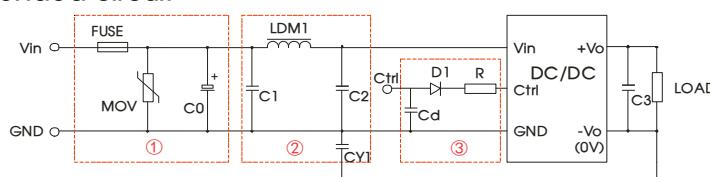

Fig. 3
| EMI | CE | CISPR22/EN55022 | CLASS B (see Fig. 3-② for recommended circuit) |
| | RE | CISPR22/EN55022 | CLASS B (see Fig. 3-② for recommended circuit) |
| | EFT | IEC/EN61000-4-4 | ±2kV (see Fig. 3-① for recommended circuit) perf. Criteria B |
| | Surge | IEC/EN61000-4-5 | ±2kV (see Fig. 3-① for recommended circuit) perf. Criteria B |
- ① Part ① in Fig. 3 is used for EMS test while part ② is used for EMI filtering; and parts ① and ② may be selected based on needs.
- ② V_C is the voltage of the Ctrl end relative to the GND of the input grounding; V_D is the positive-going conduction pressure drop of D1; I_c is the current flows into the Ctrl end and its value is generally 5-10mA, see Fig. 3-③ for the peripheral circuit of Ctrl end;
- ③ If there is no recommended parameters, no external component is required.